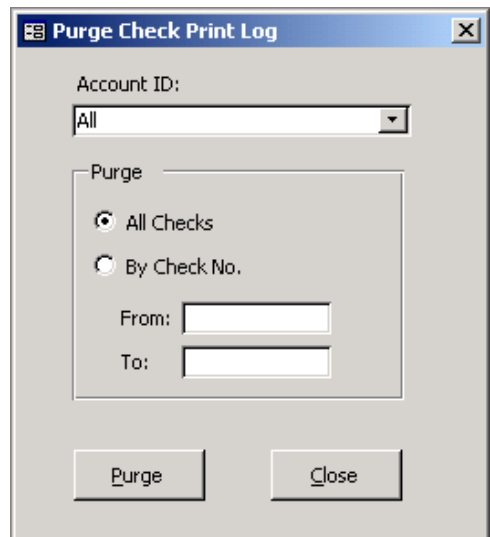

Figure 5-14
4. In the Purge Check Print Log dialog box (Figure 5-14), select an **Account ID** or **All**, then select the option for either **All Checks** or a range of checks **By Check No.** If a range of checks, type the check number range in the fields provided.